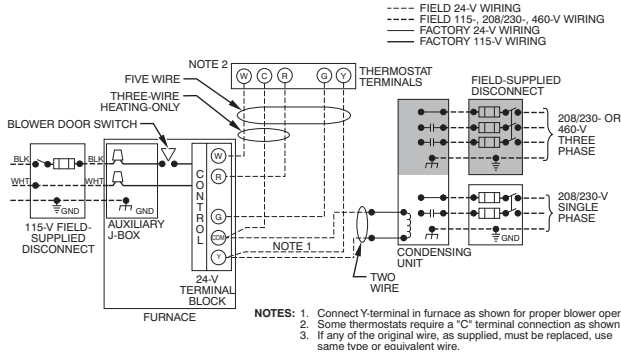

Fig. 32 – Typical Field Wiring Diagram
See Fig. 32 for field wiring diagram showing typical field 115-V wiring. Check all factory and field electrical connections for tightness.
6. Connect power cord power and neutral leads to furnace power leads as shown in Fig. 32.
5. Connect field power and neutral leads to furnace power leads. as shown in Fig. 32.